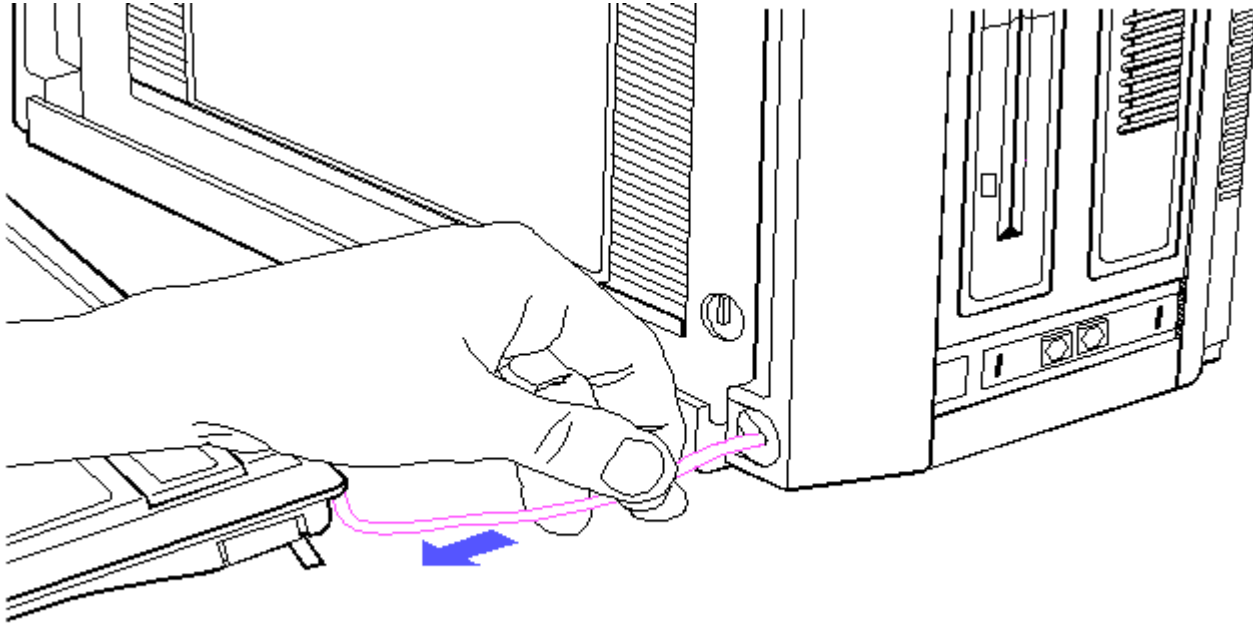

Figure 8-2. Disconnecting the Keyboard Cord
3. Grasp the keyboard cord near where it connects to the computer. Gently pull it away from the keyboard connector on the computer (Figure 8-2).